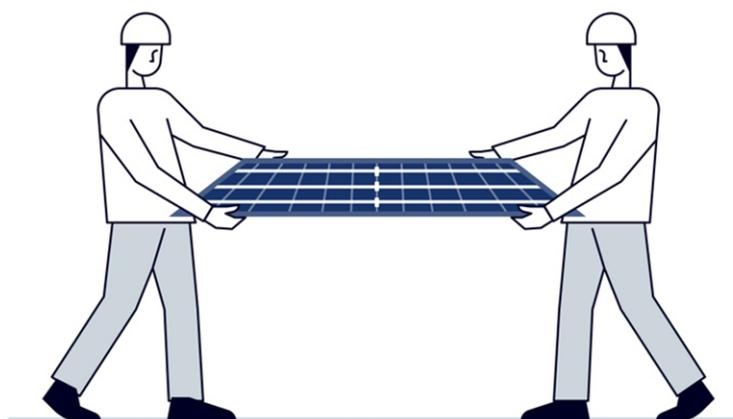

Figure 20: Module handling.
- g) PV Modules must be grabbed from the aluminum frame with two hands (Figure 20).